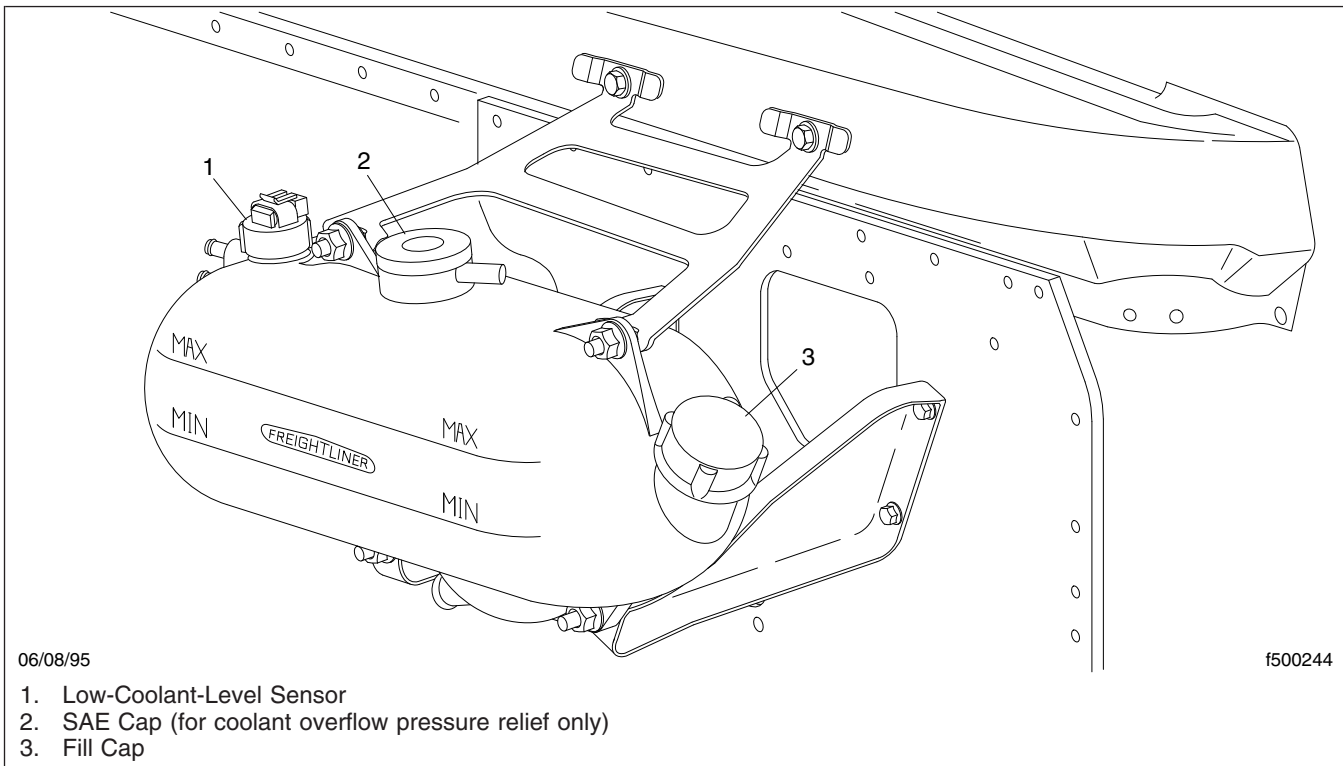
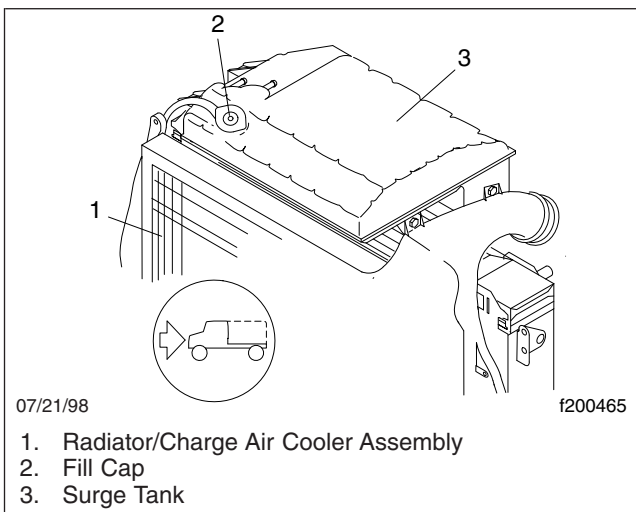

Fig. 1, Surge Tank, Century Class Conventional
Fig. 2, Surge Tank, Argosy COE
2. Using a radiator-cap tester, check the pressure cap to see if it maintains pressure to within 10% of the pressure rating marked on the cap. If it doesn't, replace the cap. See Fig. 1 or Fig. 2. Make sure that the replacement radiator cap is correctly rated for the cooling system of the vehicle.